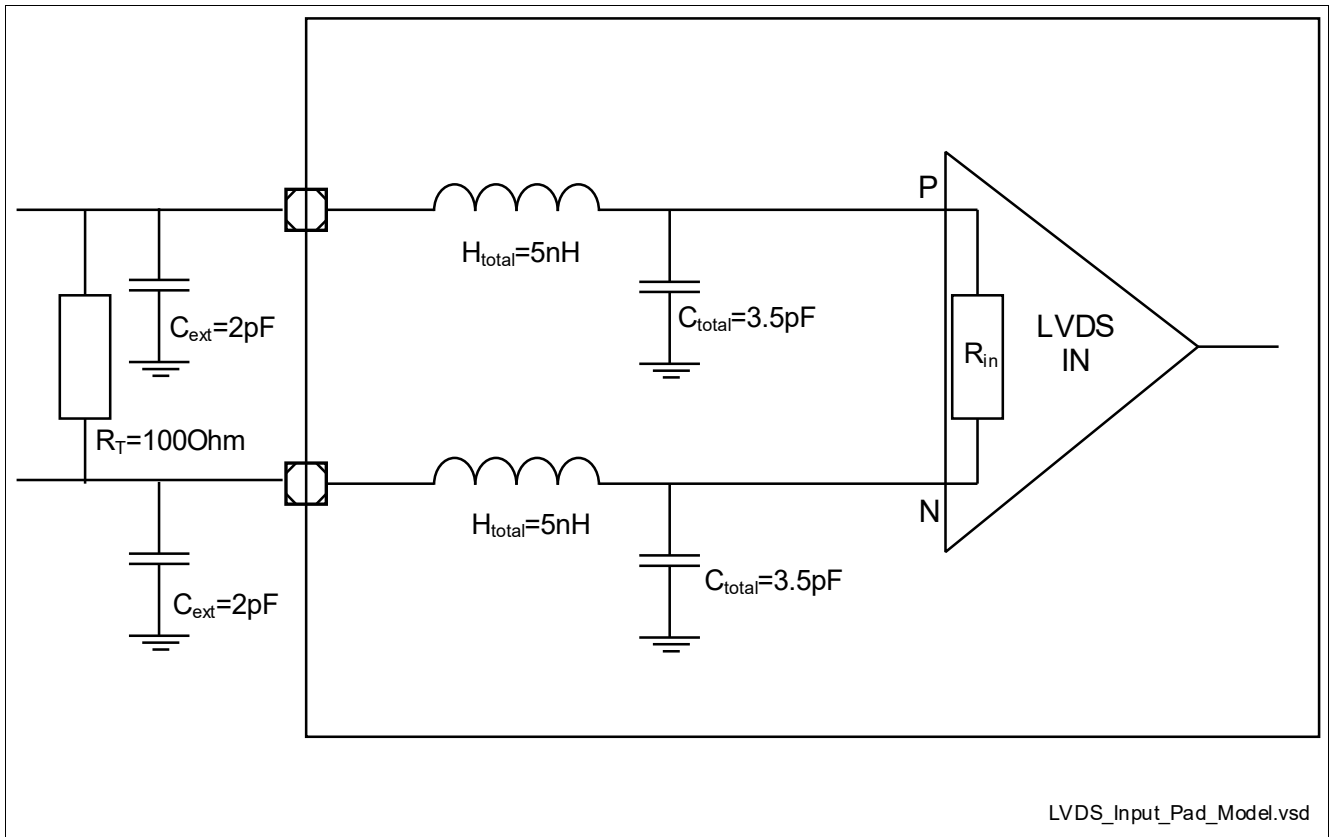

Figure 3-1 LVDS pad Input model
*Note:  $R_T$  in table 'LVDS - IEEE standard LVDS general purpose Link (GPL)' is as termination resistor of the receiver according to figure 3-5 in IEEE Std 1596.3-1996 and is represent in **Figure 3-1** either by  $R_{in}$  or by  $R_T=100Ohm$  but not both. If  $R_T$  is mentioned in column Note / Test Condition always the internal resistor  $R_{in}$  in **Figure 3-1** is the selected one.*